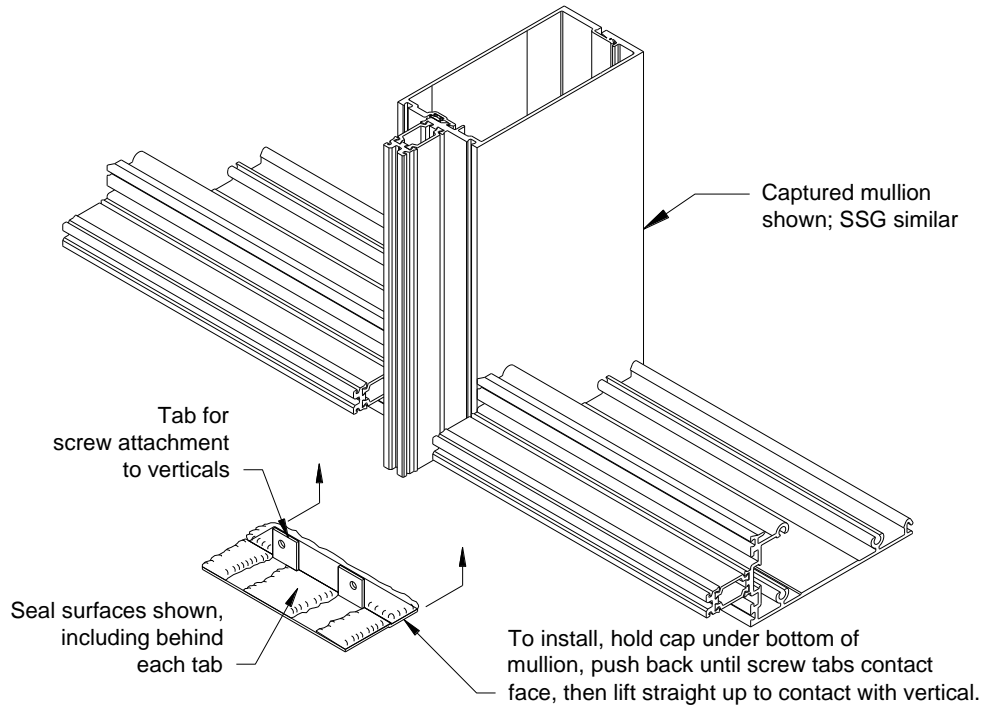

Figure 16A: Mull Cap Installation (Head Similar)
7.1 Prior to installing mullion caps at top and bottom of all intermediate verticals, clean and seal the end of the mullions & caps thoroughly. Install onto mullion with (2) FS-202 #8 x 1/2" Phillips Pan Head screw. **See FIGURES 16A & 16B.** Tool sealant and cap seal all screws. **THIS IS A CRITICAL SYSTEM SEAL.** Use care when installing mullion end caps to ensure that the bulb gasket seal (STEP 6.3) is married with the end cap seal.